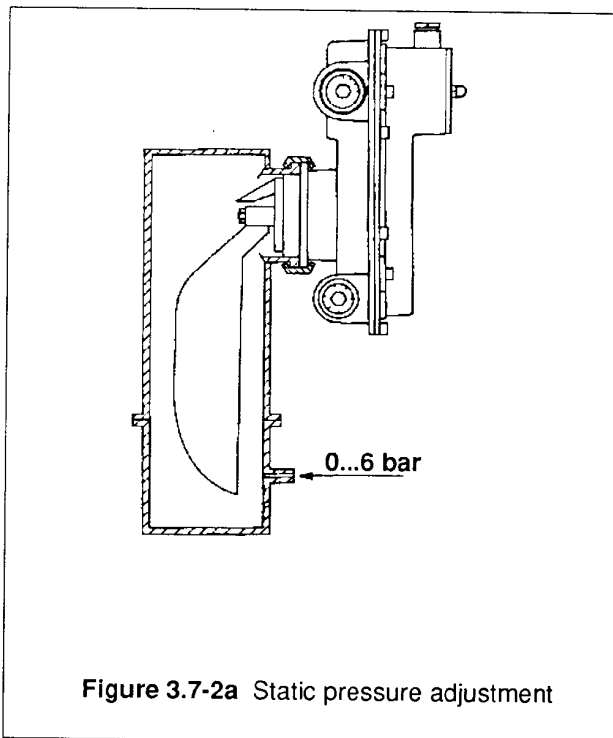

Figure 3.7-2a Static pressure adjustment
1. Attach the transmitter, including its process coupling sealing ring, to a pressure cylinder with mounting clamp (Fig. 3.7-2a).